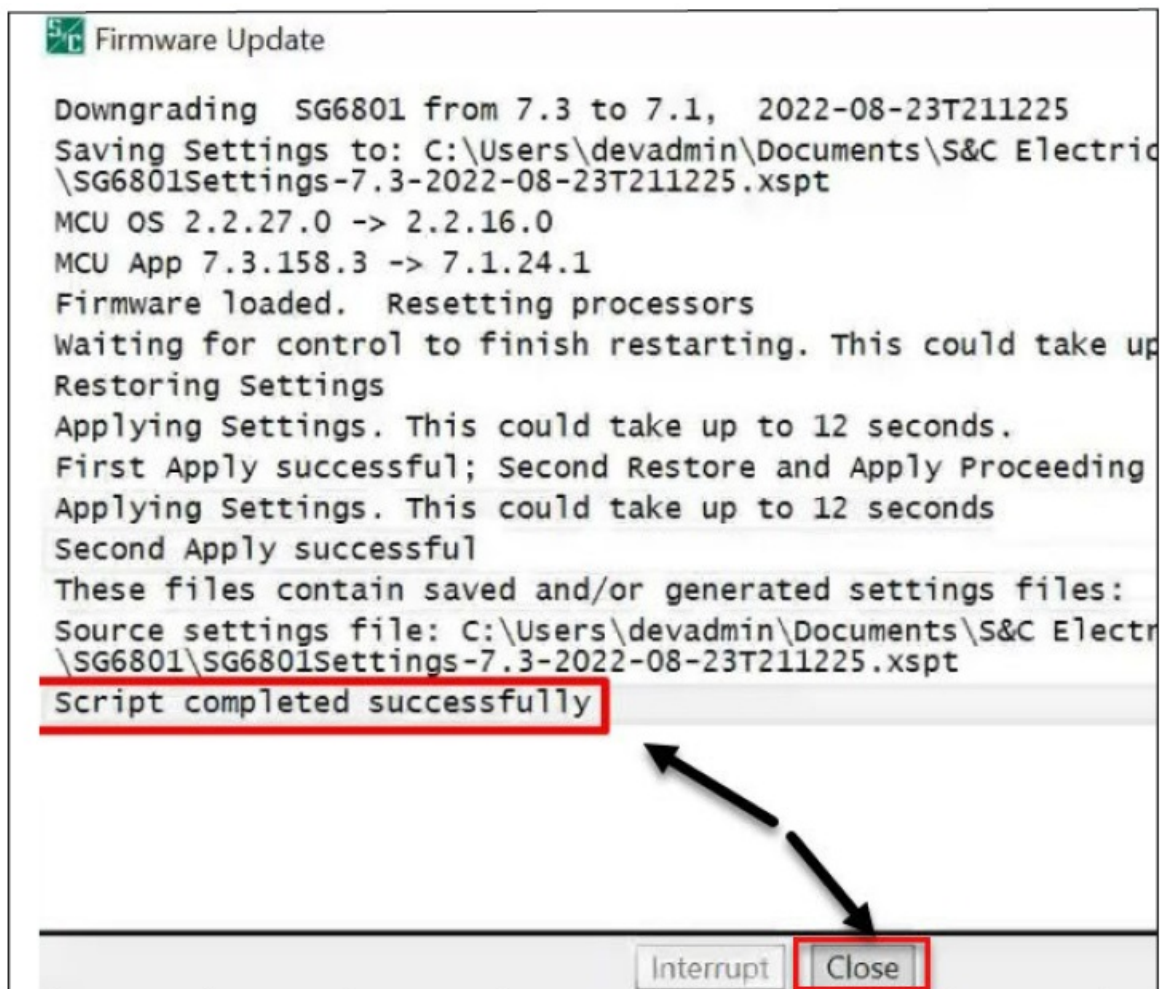

Figure 39. The “Script completed successfully” message.
- **STEP 21.** When "Script completed successfully" is indicated in the Firmware Update dialog box, click on the Close button. See Figure 39.